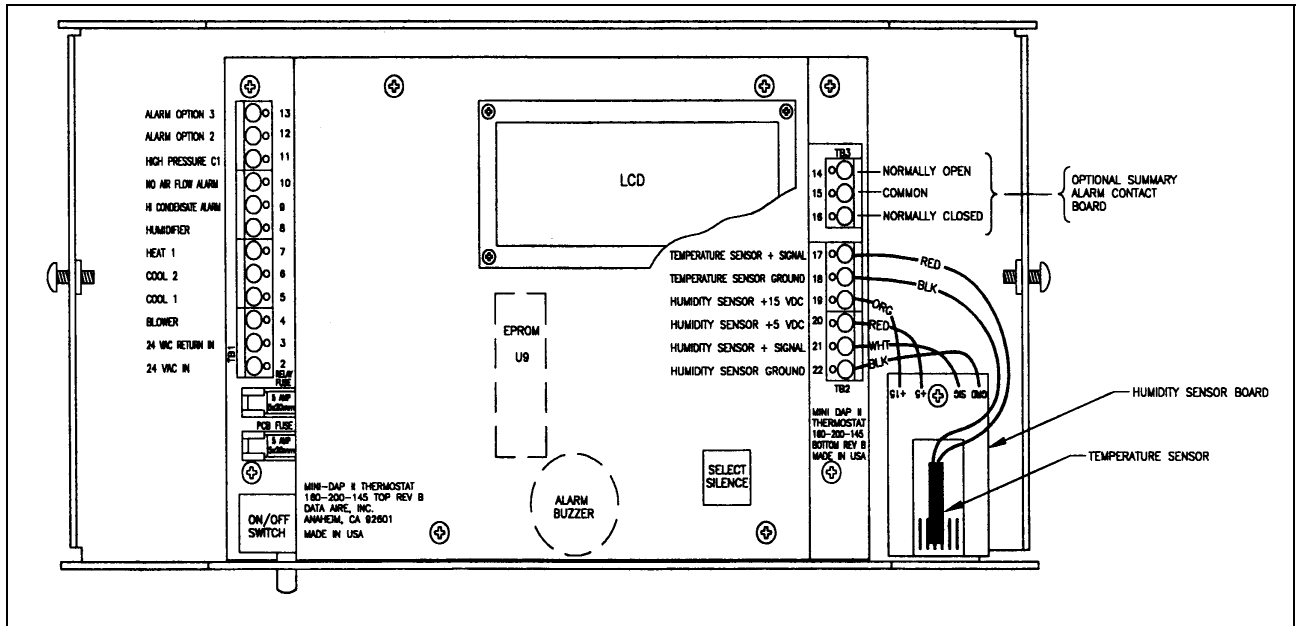

Figure 2: Terminal identification and circuit board details.
4. Connect one end of the factory provided cable to the unit terminal strip, refer to unit wiring diagram for details. Use the color coded wires to designate the functions and terminal number. See figure 2.